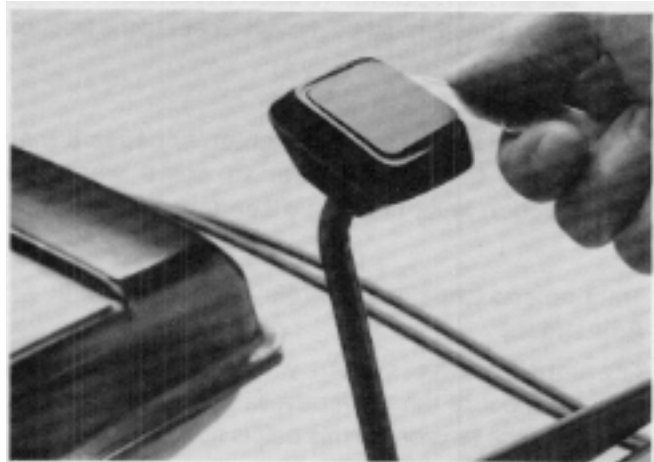

Figure 55
1. To remove the knob, use a pocket knife to pry off the square knob cover. See Figure 55.